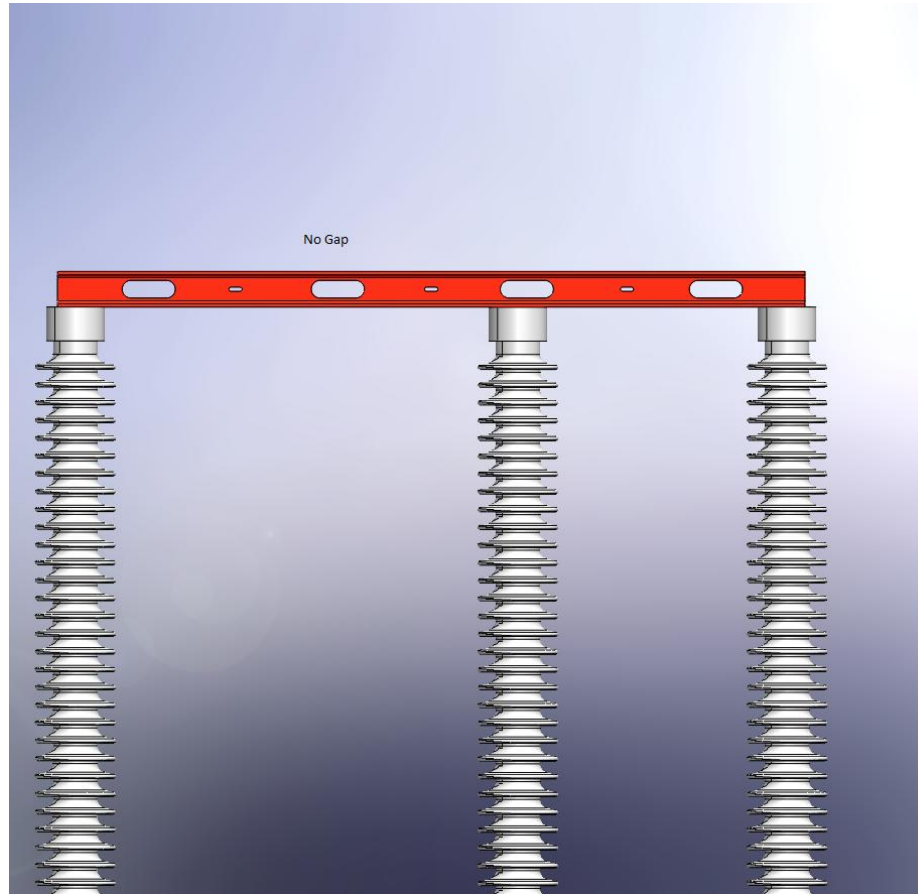

Figure 4: Leveling insulators
- 7.3. Plum insulators using a plumb-bob or a level. Check insulator's to be on the same height as shown in **Figure 4** using a level.